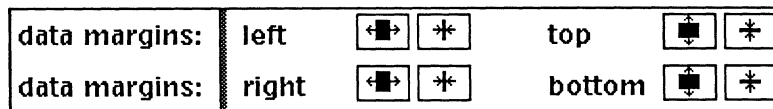

Figure 28-26. Data margins boxes
**Data margins.** These boxes are used to alter the size of the margins around the data (Figure 28-26). *Data margins* are discussed in the *Altering Margins* section.